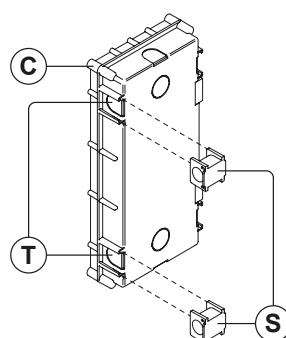

Fig. 73
1. Take the flush box clips (S) and slide them into the side slots (T) on the 1st flush box, as shown in **Fig.73**;